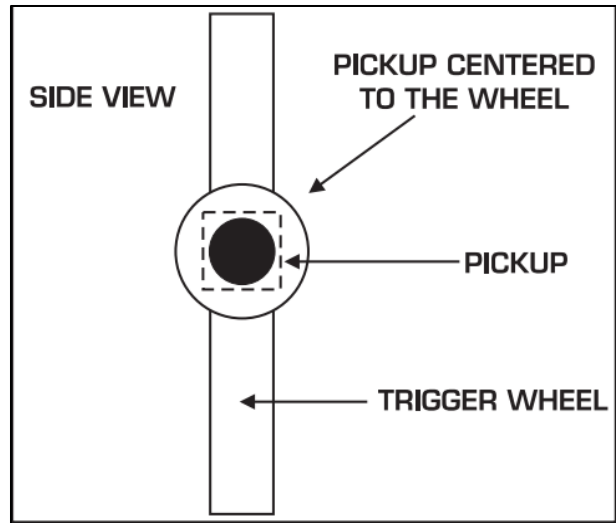

Figure 2: Pickup Centered on the Trigger Wheel.
2. Install the bracket onto the engine. The bracket may be mounted on either side of the balancer. Use the correct length bolts and shims in the proper location to insure the wheel is centered with the pickup. **(Figure 2)**